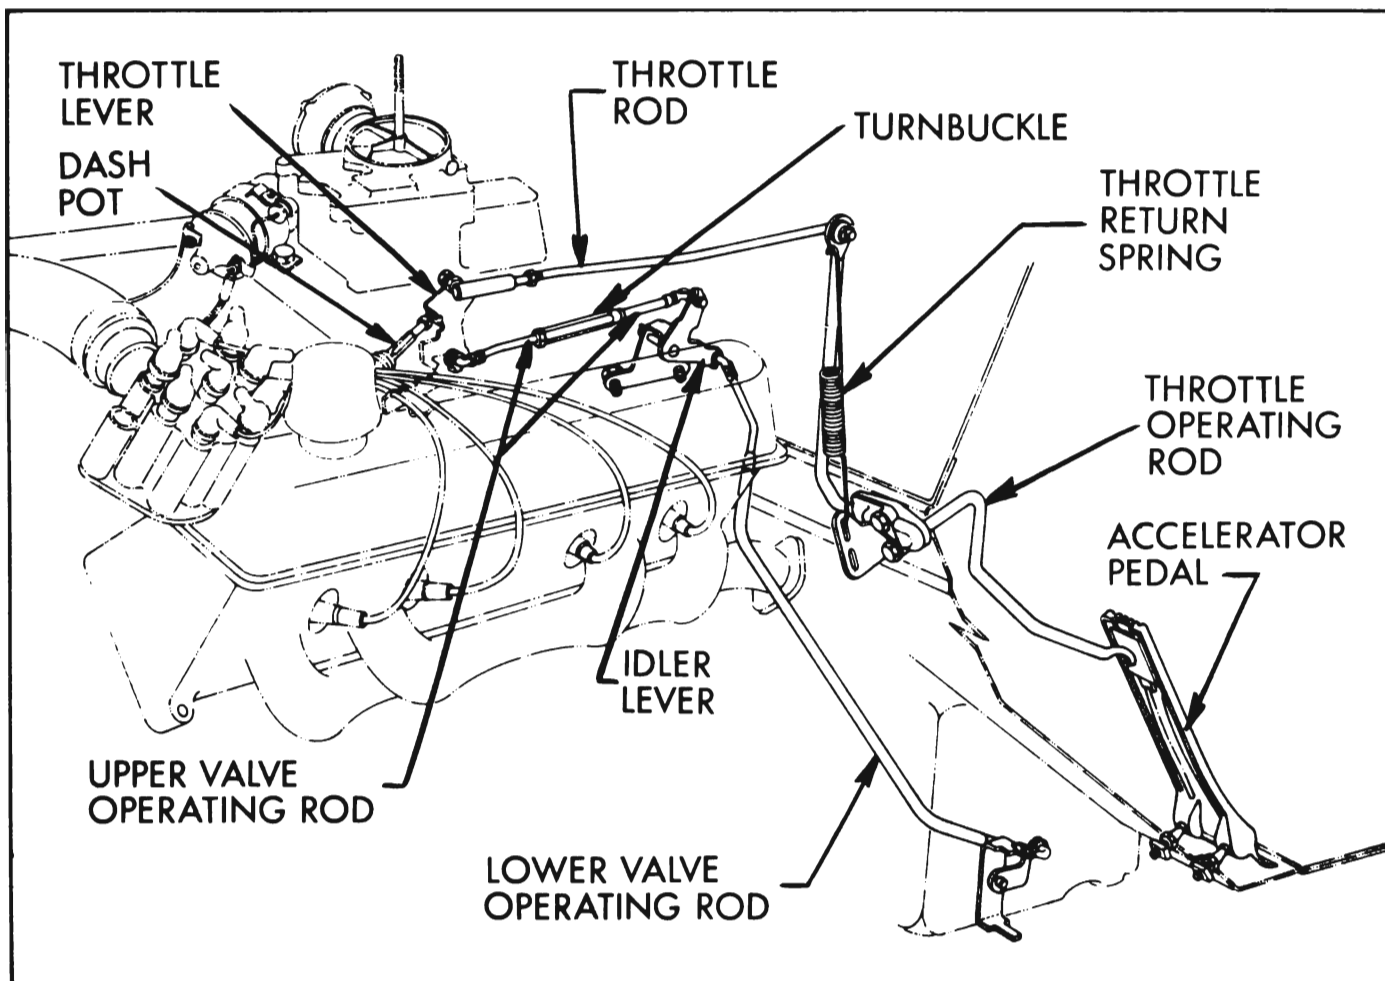

Figure 3-9—Throttle and Transmission Control Linkage (Automatic Transmission)
4. Disconnect rear end of throttle rod from throttle operating lever. See Figure 3-9.
short that stop in transmission prevents carburetor from reaching wide open throttle. See Figure 3-9.